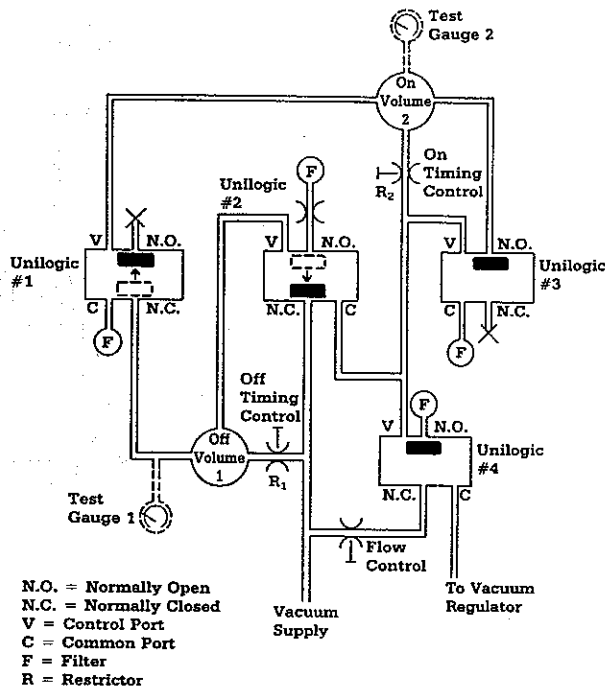

Figure 6
The ON volume reservoir is evacuated to approximately 5-8 in Hg vacuum (125-200 mm Hg) and this vacuum is applied to the V port of Unilogic Gate #1. See Figure 6. This causes gate #1 to switch and connects the C port to the NC port of Unilogic Gate #1. Air enters the C port through the filter (F) and passes through the NC port to the OFF volume reservoir. This breaks the vacuum in the OFF reservoir and sets off a chain reaction.